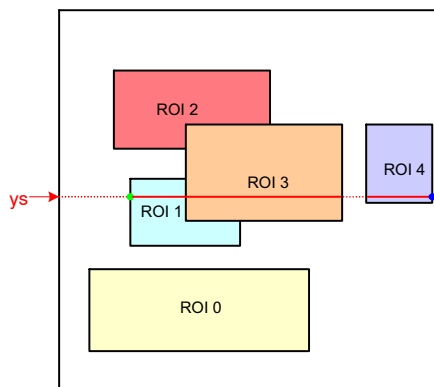

Figure 23. Scanning the Image Array with Five Windows
Figure 23 illustrates a practical example of a configuration with five windows. The current position of the read pointer (ys) is indicated by a red line crossing the image array. For this position of the read pointer, three windows need to be read out. The initial start position for the x-kernel pointer is the x-start configuration of ROI1. Kernels are scanned up to the ROI3 x-end position. From there, the x-pointer jumps to the next window, which is ROI4 in this illustration. When reaching ROI4's x-end position, the read pointer is incremented to the next line and xs is reinitialized to the starting position of ROI1.
- The read pointer is not necessarily incremented by one, but depending on the configuration, it can jump in y-direction. In Figure 23, this is the case when reaching the end of ROI0 where the read pointer jumps to the y-start position of ROI1.